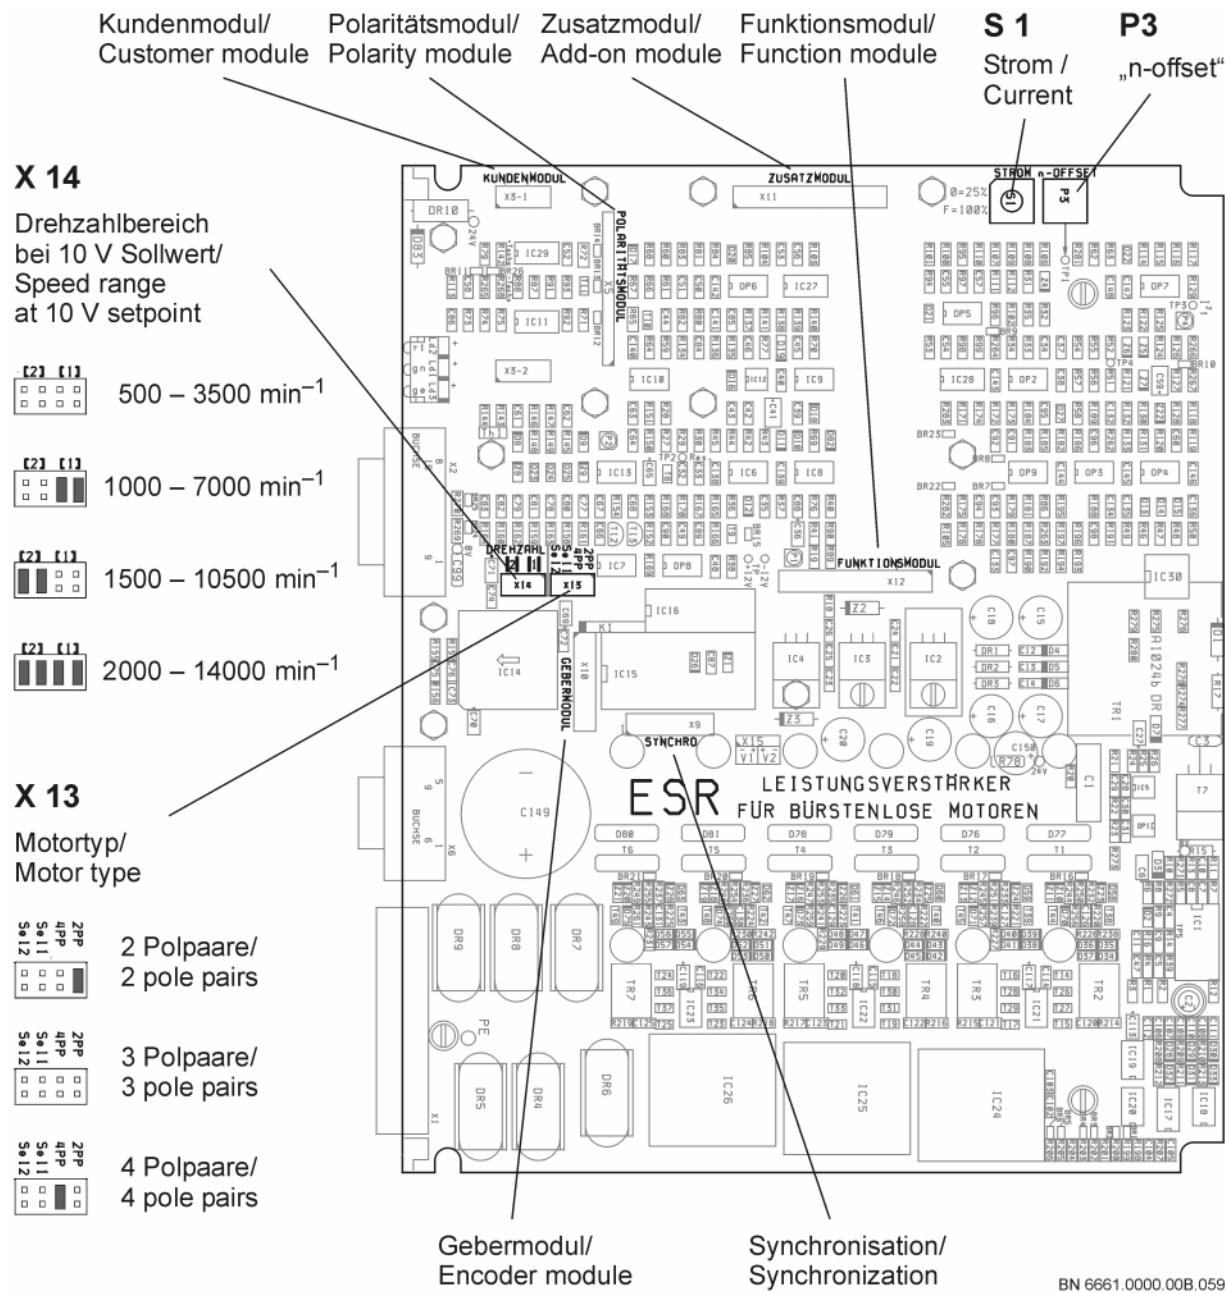

Fig. 11: Location of the jumpers on the board
The speed control range is determined using the option K (K1, K2, K4, K5, KA, and KB). However, it is not implemented on the customer module, but by means of jumpers on the board. Modify by relocating the jumpers on the X 14 field, labeled "DREHZahl" (= speed). 2 jumpers must always be placed at the same time. The positions are marked [1] and [2]. Figure 11 shows the location of the jumpers and the locating options.
- If the amplifier is fitted with an add-on module, the offset must be readjusted in the manner described below. To do this, the offset trimmer on the front panel is required, as well as the potentiometer inside the device which is marked "n-OFFSET". It is located at the very top behind the front panel, see fig. 11.
There are 4 positions for each jumper. The positions are labeled 2PP, 4PP, Sel1 and Sel2. Figure 11 shows the location of the jumpers and the locating options.